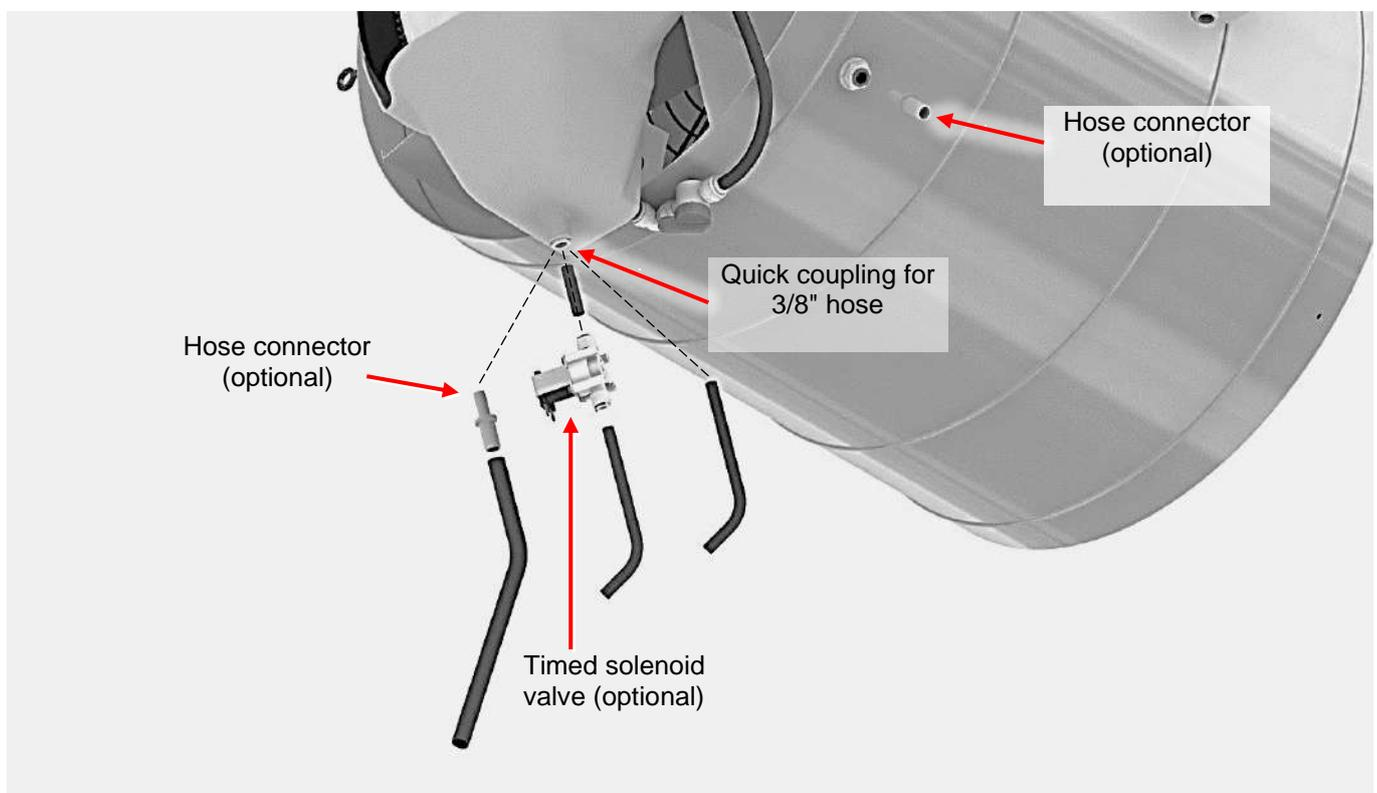

Fig. 2.4.1
Make the connections to the water supply and drainage lines at the points provided. (Fig. 2.4.1):
A specific accessory (Fig. 2.4.1) is available for the direct connection of a hose by means of a hose barb.
- connect a flexible hose to the discharge pipe, either directly or via the hose connector available as an accessory (see Fig. 2.4.1) and provide a suitable shut-off device (e.g. tap, timed solenoid valve, etc.) which must be normally closed during operation.